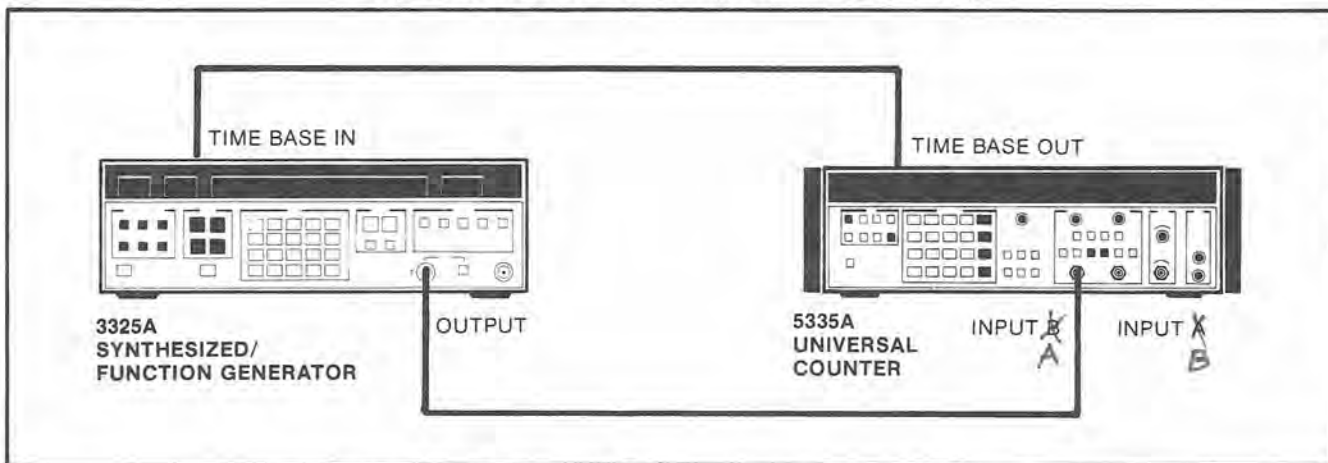

Figure 4-13. Time Interval and Inverse Time Interval Test Setup
- a. Connect the 3325A Synthesizer/Function Generator to the 5335A INPUT A as shown in Figure 4-13.
- 1 MΩ/50Ω 50Ω (ON)